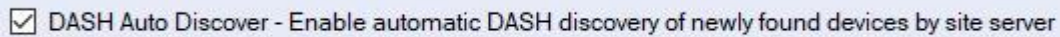

Figure 16: DASH Auto Discover Section
For more information, refer to Figure 16 Selecting the DASH auto discover checkbox removes the need to do the manual Discovery at a later stage.
6. Schedule Time states the occurrence of the specified power task. It can be immediate (shown in Fig 15) or Scheduled (shown in Fig 16).